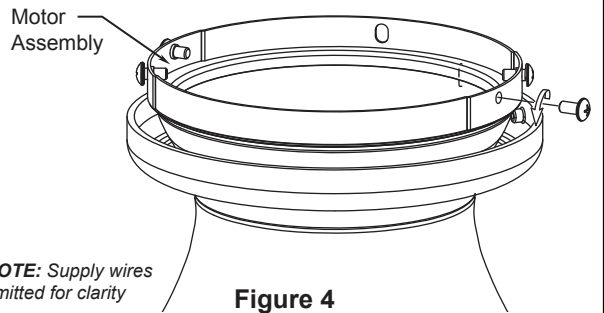

Figure 4
3. Remove the two screws from the motor assembly, retain the screws for later and loosen the remaining screws. (Figure 4)
- 4. Securely attach the 9-pin switch cup connector to the wiring harness socket within the upper LED plate assembly. (Figure 4)
- 4. To set the remote code with a small screwdriver or ball point pen (neither included), slide dip switches firmly up or down. (Figure 4)